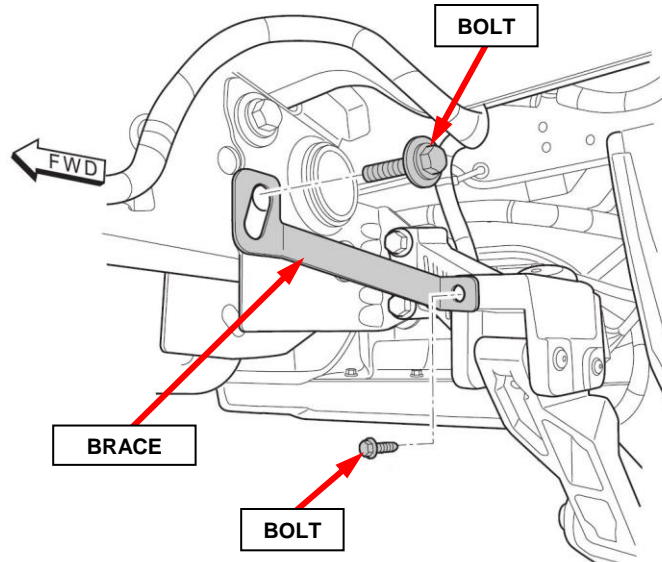

Figure 1 – Old Bed Step Brace
2. Remove the two bolts securing the bed step brace and **SAVE** the large M16 bolt, **DISCARD** the small M8 bolt (Figure 1).
3. Remove the recalled bed step then render it unusable and **DISCARD**. (Figure 1).